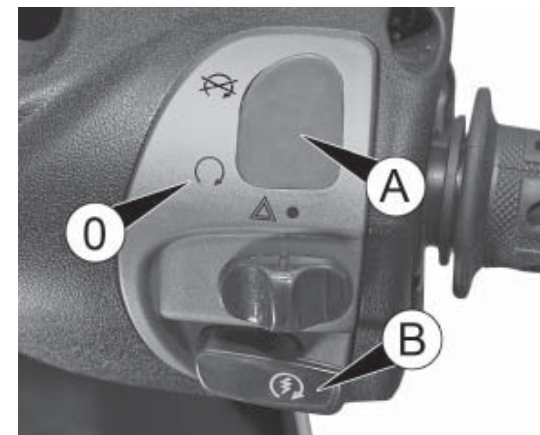

fig. 2
- Ensure that button A Fig. 2 is in position 0
- Pull one of the two brake levers on the handlebar (or press the brake pedal) and press the starter button B fig.2.